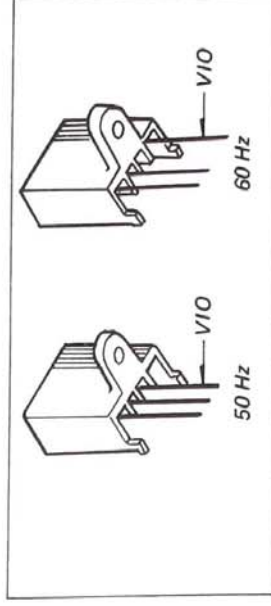

Fig. 4-2. Motor wiring change
1. Remove the self-tapping screw securing the 4-P AMPLOK plug to the chassis, and change the wiring to match the local line frequency as shown in Fig. 4-2.